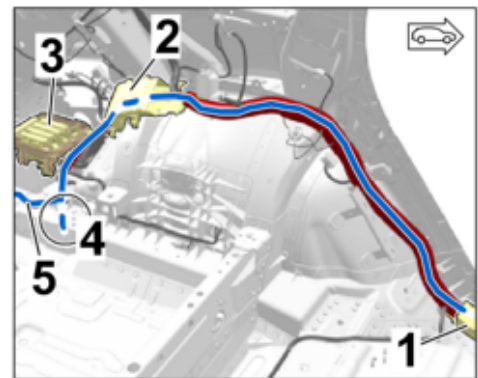

Figure 19
3.2.3 Wheel housing area, left ⇒ *Figure 19*